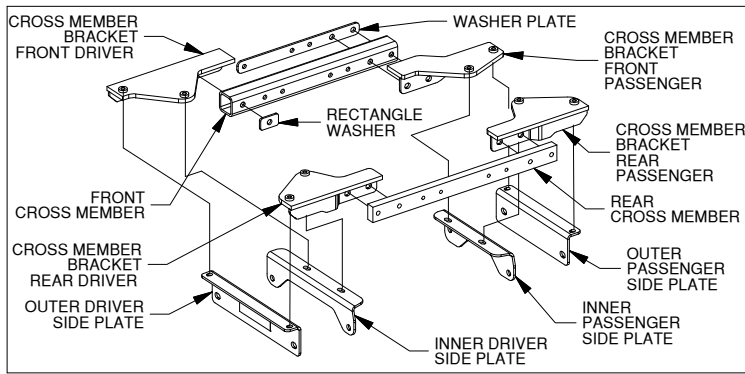
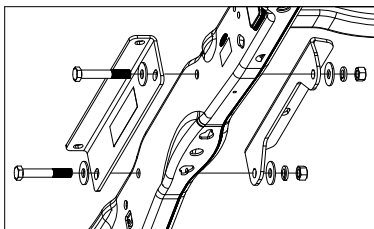
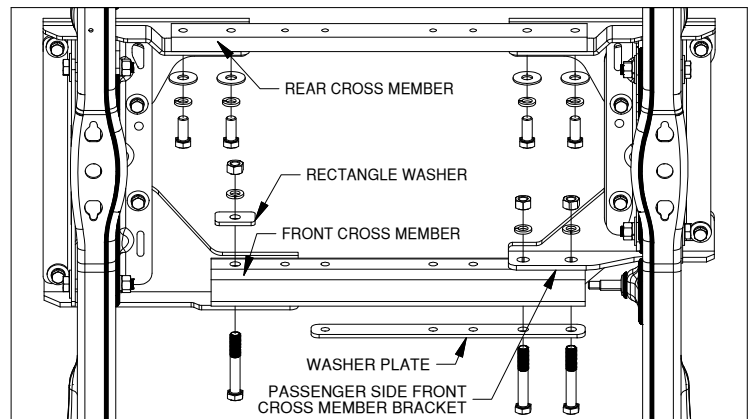

Figure B1: Side plates and Mounting Kit Exploded View
Figure B3: Driver Side Side plates
Figure B6: Bottom of truck frame looking up from the back of truck towards the cab
3. Install Side Plates. Locate the outer and if needed the inner side plates, see Figure B1. Install the side plates as shown in Figures B3 & B4, so that there is a side plate on the inside and outside of each frame member. Attach the side plates to the frame using 5/8" x 4" bolts, two flat washers, lock washer, and nut, as shown in Figure B3. Fasten hardware until the side plates are flush against frame.
5. Install Cross Member Brackets. Locate the four cross member brackets as shown in Figure B1, and the eight, 1/2" bolts with an added thread locker. Attach these brackets to the inner and outer side plates using these bolts. If the bolts with thread locker are cap screws without a flanged head, also add a flat and lock washer, see Figures B5.
6. Install Front Cross Member. Locate the front cross member shown in Figure B1. Inspect the front cross member tube, find the inside wall that contains the welded seam. Using the washer plate and two 5/8" X 4" bolts, attach the front cross member to the passenger side front cross member bracket so that the welded seam is positioned up against the bracket, see Figure B6. Next, attach the cross member to the driver side cross member bracket with 5/8" x 4" bolt, rectangle washer, lock washer and nut, as shown in Figure B6.
7. Install Rear Cross Member. Locate the rear cross member shown in Figure B1. Attach the rear cross member to the cross member brackets as shown in Figure B6 with 5/8" x 1-1/2" bolts, flat washers, and nuts.